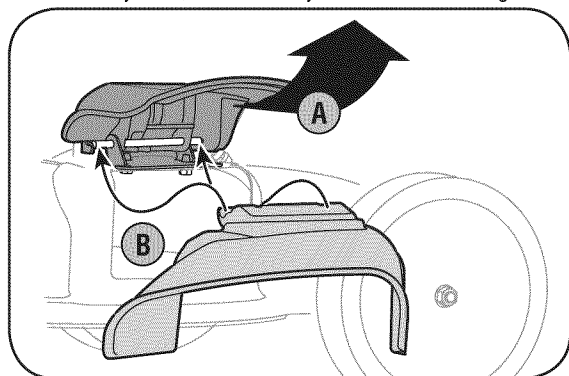

Figure 3-7: Lift mulch plug and install side discharge chute.
- a. On the side of the mower, lift the mulching plug. See Figure 3-7 below.